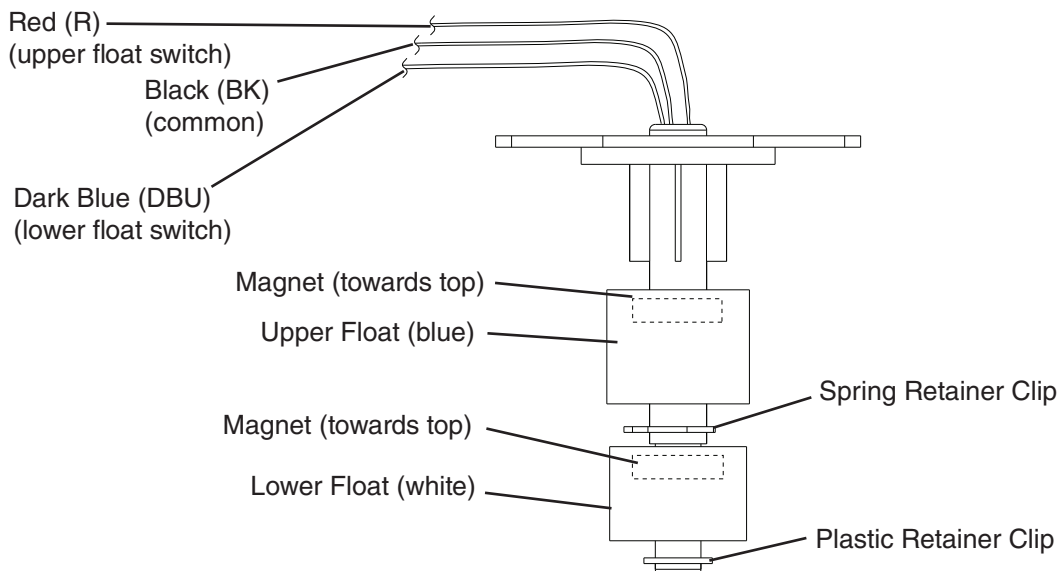

Fig. 4
- 3) Remove the float switch assembly from the reservoir cover. See Fig. 4.
- 5) While not necessary, the floats can be removed from the shaft during cleaning. If you remove them, note that the blue float is on top. The floats must be installed with the magnets inside them towards the top of the switch. See Fig. 4. Installing the floats upside down will affect the timing of FS operation.